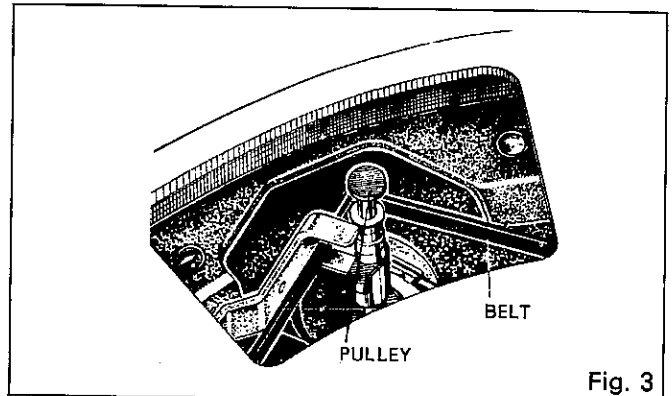

Fig. 3
- b. Attach the platter to the turntable shaft. Then hold the belt and put it on the motor pulley. Make sure not to twist the belt. (Fig. 3)